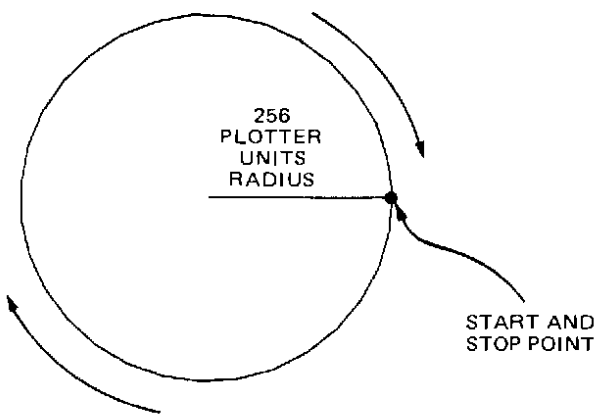

Figure 6-2. Arc Clockwise
**Result** A circle with a radius of 256 plotter units is drawn in a clockwise direction. See Figure 6-2. The actual plot made with the foregoing procedure is shown in Detail A, Figure 6-22.